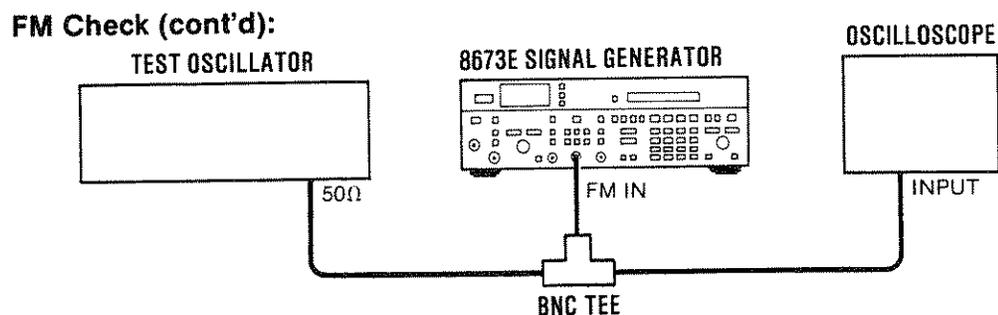

Figure 3-9. FM Functional Check Setup
30. Set the test oscillator to 100 kHz at an output level of 0V. Then, connect test oscillator and oscilloscope to the Signal Generator as shown in Figure 3-9.